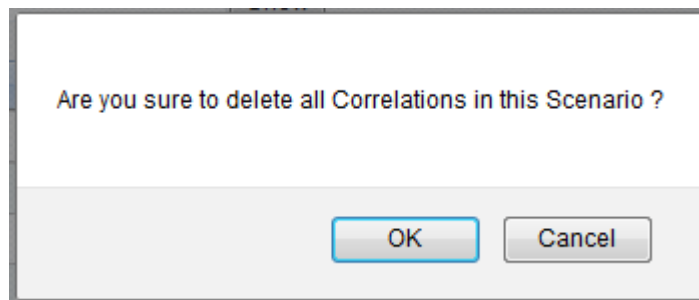

Figure 2.54
2. Click **DELETE ALL CORRELATIONS** button. An alert box appears. (Figure 2.54)
3. Click **OK** to remove or click **Cancel**. (Figure 2.54)